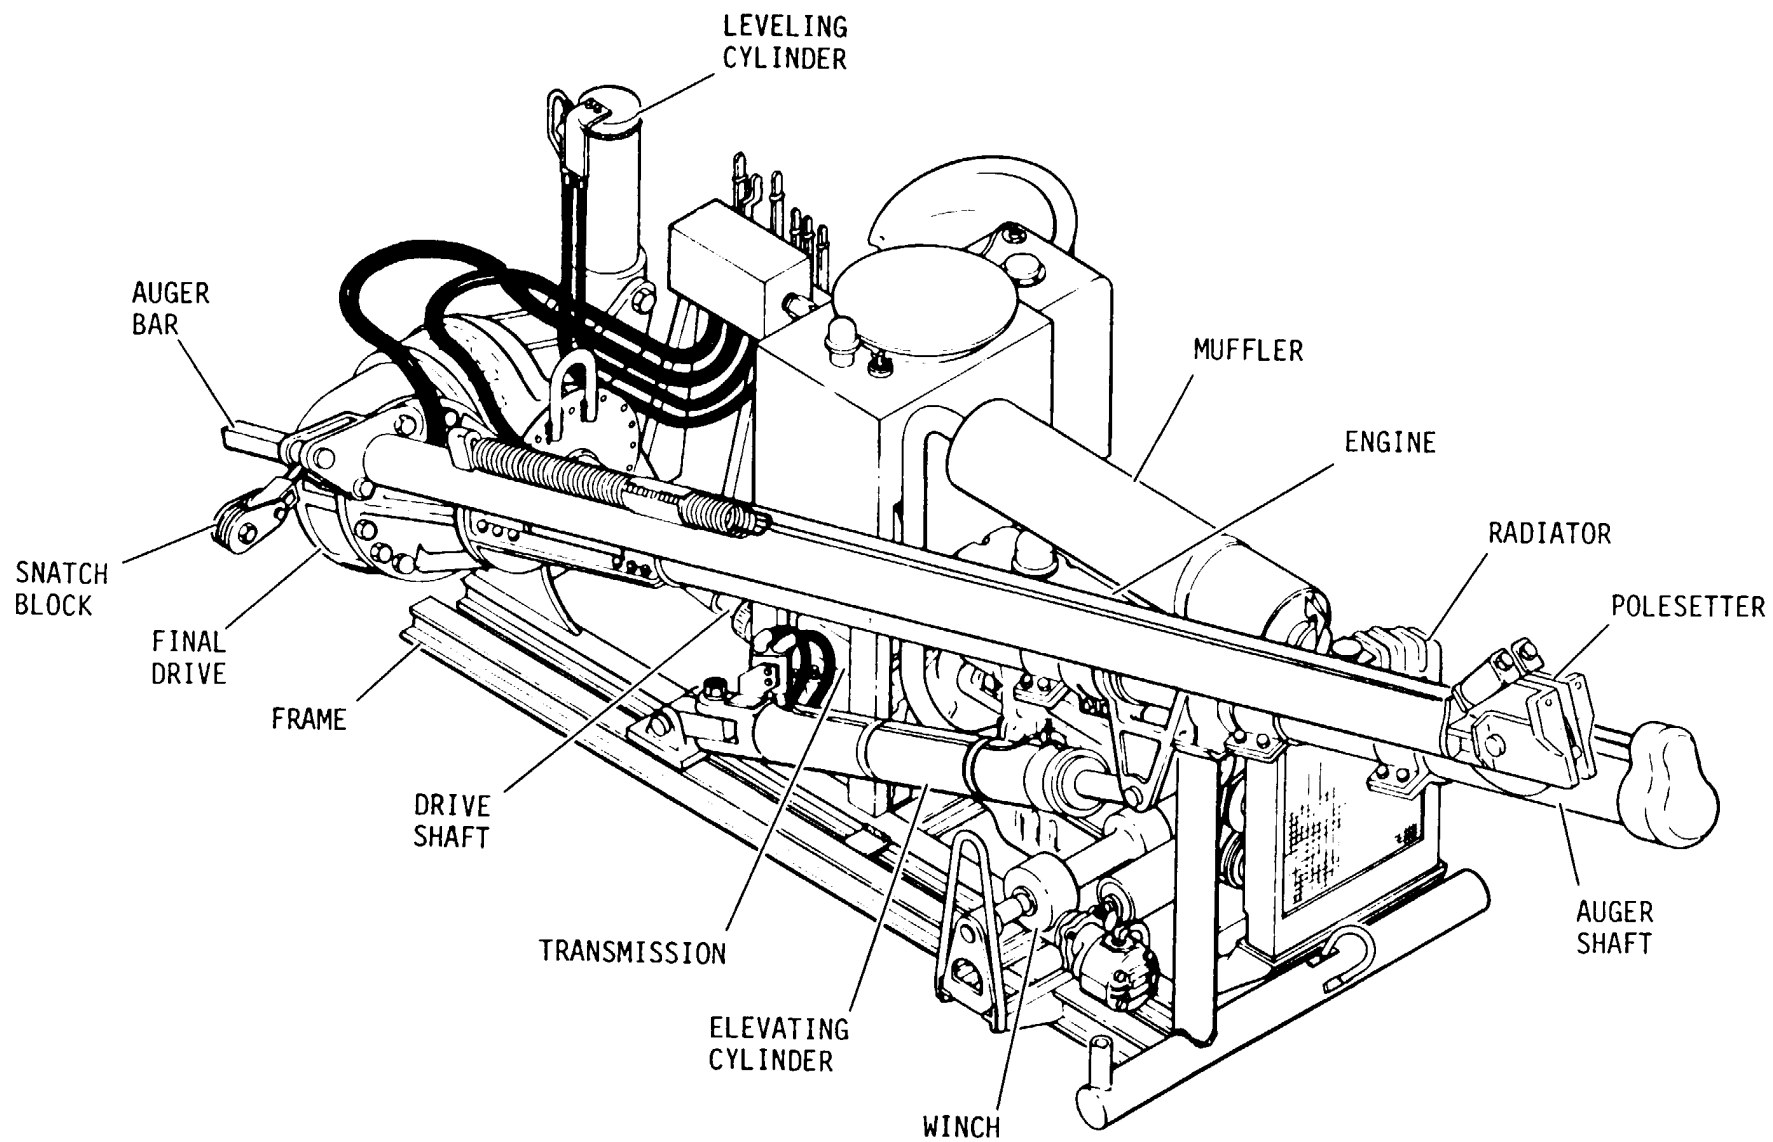

Figure 1-1. Earth auger, right front view (accoustical panels removed).
a. *General.* The Texoma Incorporated Earth Auger Model 254-9, illustrated in figures 1-1 and 1-2, is a self-contained, skid mounted, earth boring assembly driven by a gasoline engine, Ford Model 2004GF6006E). All operations of the boring assembly are controlled by a hydraulic system. The auger is capable of boring holes 9 to 24 inches in diameter and to a depth of 9 feet. The boring assembly can be operated from vertical downward to 60c away from truck, 450 to the right or left of truck, or 100 toward the truck.
(1) The hydraulic system incorporates load lock valves on both the elevating and leveling cylinders. These valves prevent the cylinders from retracting in event of hydraulic system pressure loss.